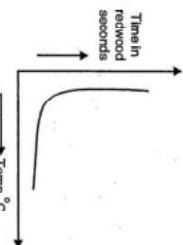

Fig. 3.6.2 : Graph of time (Redwood Seconds) versus temperature
- Then a graph of temperature v/s time (Redwood Seconds) is plotted. Refer Fig. 3.6.2.